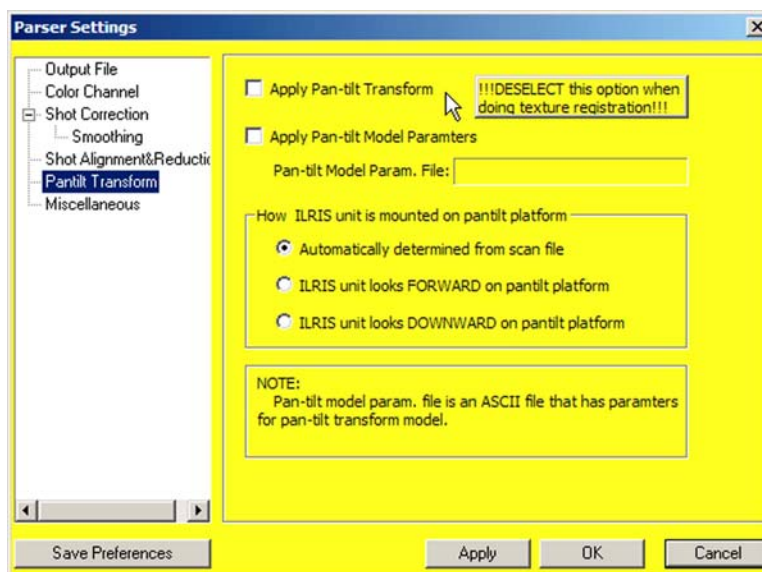

Figure 5: Pantilt Transform settings
| Figure 5: Pantilt Transform settings | 4 |
11. In the Parser Settings list, select **Pantilt Transform**. The Pantilt Transform settings appear (Figure 5).